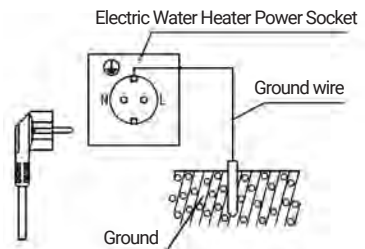

Figure 5
- (9) After confirming that the rated values of electricity meters, wires, switches sockets and fuses in the power supply system meet the power consumption requirements of this product, connect a separate power socket at an appropriate position to supply power to the electric water heater (as shown in Figure 5). The installation height of power socket from the ground shall not be less than 1.8m.
- (10) After confirming that the rated values of electricity meters, wires, switches, sockets and fuses in the power supply system meet the power consumption requirements of this product, connect a separate power socket at an appropriate position to supply power to the electric water heater (as shown in Figure 5). The installation height of power socket from the ground shall not be less than 1.8m.